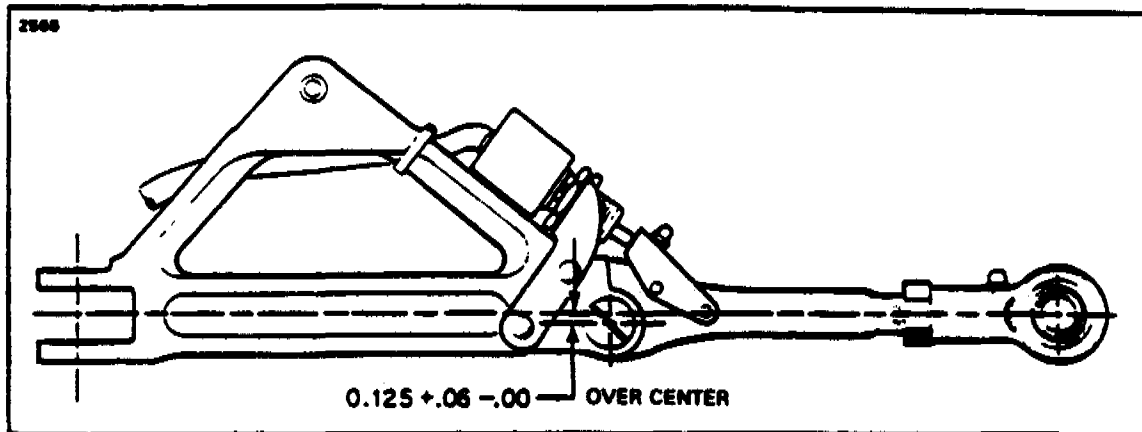

FIGURE 6-8a. MAIN GEAR SIDE BRACE LINK TRAVEL
7. Check side brace link through center travel by attaching the upper and lower links, setting them on a surface table, and ascertaining that when the stop surfaces of the two links touch, linkage is not more than 0.125 of an inch \pm .06 \pm .00 through center. Should the distance exceed the required through center travel and bolt and bushings are tight, replace one or both links. (Refer to Figure 6-8a.)